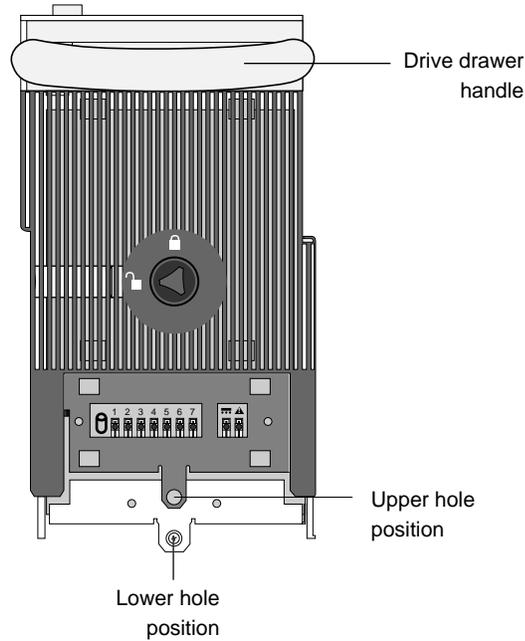

Figure 12. Drive drawer front panel
8. Using a 3/32-inch Allen wrench, remove the mounting screw from the lower hole position and place it into the upper hole position on the drive drawer bottom panel (Figure 12).
Note: Make sure that the drive drawer handle is attached before installing the drawer into the slot. If not, insert the handle into the groove at the top of the drive drawer as shown in Figure 12 on page 12.
8. Secure the drive drawer to the HDDA chassis by moving the drawer panel screw from the upper hole position to the lower hole position on the drive drawer front panel (see Figure 12 on page 12 for the hole position).